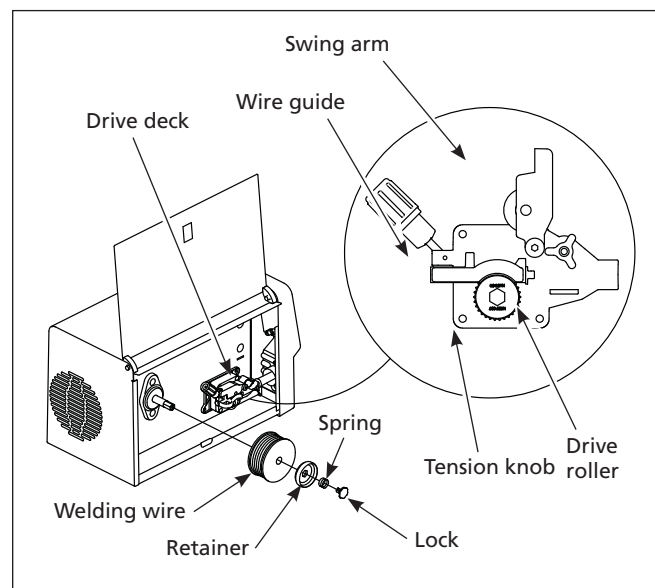

Figure 2 - Weld wire installation
- a. Diameter of welding wire matches groove in drive roller on wire feed mechanism (See Figure 2).